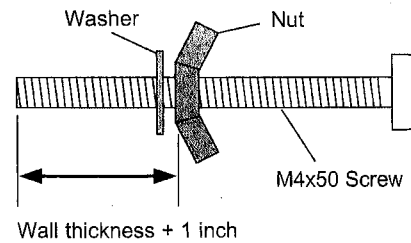

Figure 5
2. Assemble the supplied M4x50 Screw, Nut, and Washer as the Figure 5.